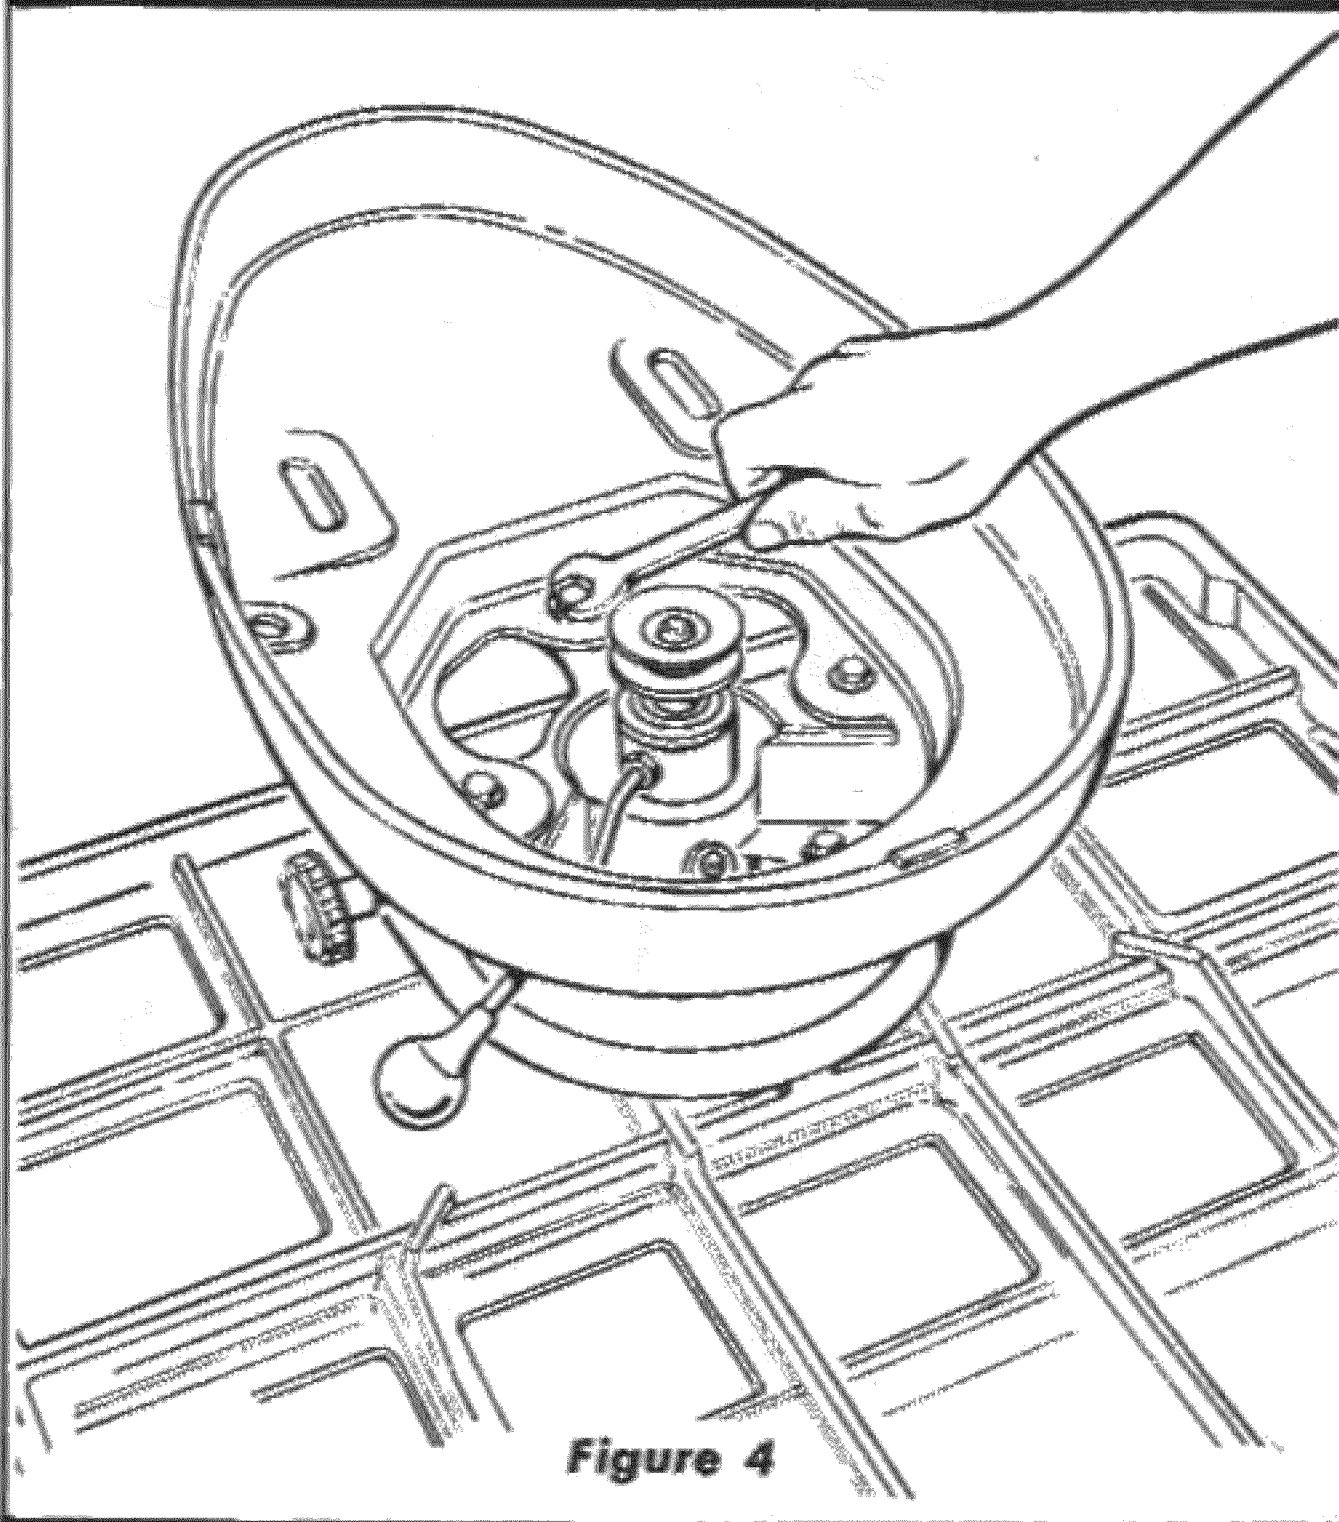

Figure 4
7. With the table upside down on a bench or the shipping carton, position shaper base on table support casting so the three mounting holes are aligned. Install and tighten the three 5/16-18 x 3/4-inch hex-head screws. (See figure 4.)